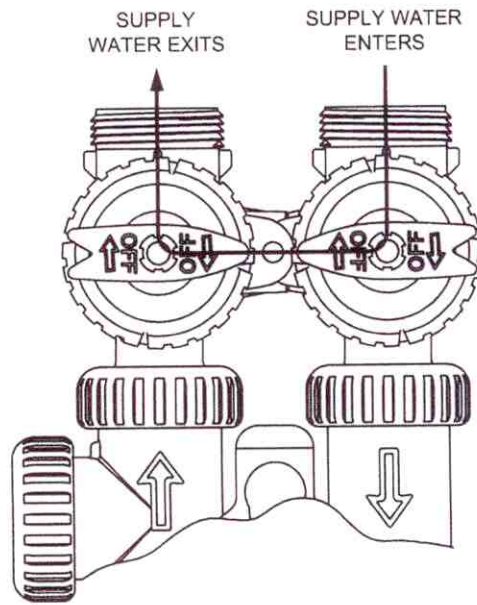

Figure 3
7. Slowly rotate the bypass to the diagnostic mode (Refer to bypass valve operation page 8-Figure 3) and slowly let water enter into the resin tank. Once water is flowing out the drain open the bypass fully. Let the water discharge to the drain until the water looks clear.
3. Diagnostic Position: The inlet handle points in the direction of flow and the outlet handle points to the center of bypass valve, system water pressure is allowed to the control valve and the plumbing system while not allowing water to exit from the control valve to the plumbing. (See Figure 3)